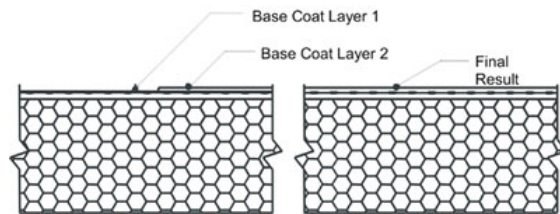

Figure 11: Fig. 11
- c) Allow the base coat mixture to take up until firm to the touch. Trowel a second tight coat of the base coat mixture over the first coat to fully cover the reinforcing mesh - Figure 11. The result should be such that the reinforcing mesh is approximately centered within the base coat thickness. Do not allow the first pass to completely dry prior to the second pass application or an excessive amount of base coat mixture will be necessary to fully coat the wall surface.